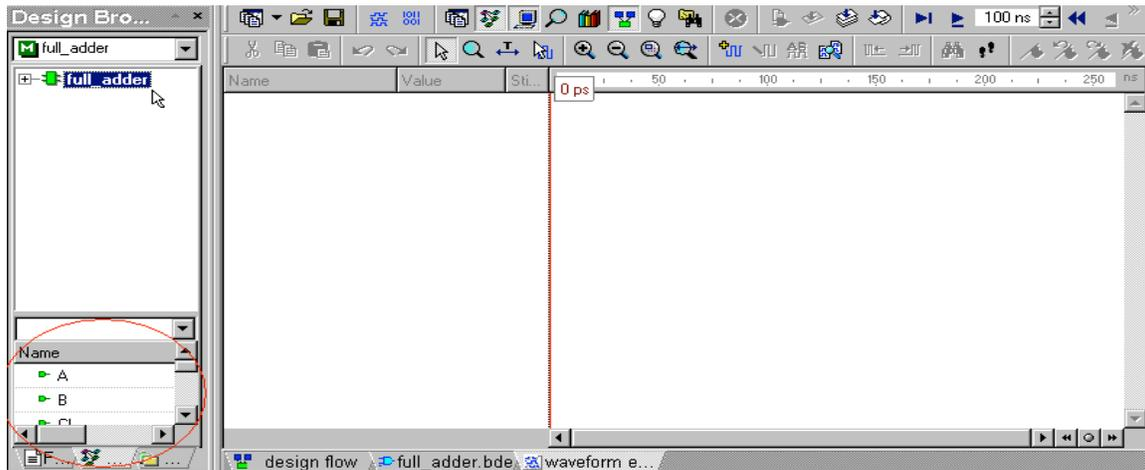

Figure 31
7. Click the file name in the top window in the Design Browser under the Structures tab. Notice in Figure 31 how the signals and wires (Nets) appear in the bottom window of the Design Browser.